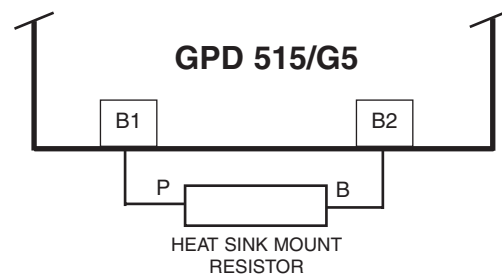

Figure A6-2. Lead Connections For Heat Sink Mount Resistor
4. Connect the leads from the Heat Sink Mount Resistor to drive terminals according to Figure A6-2.